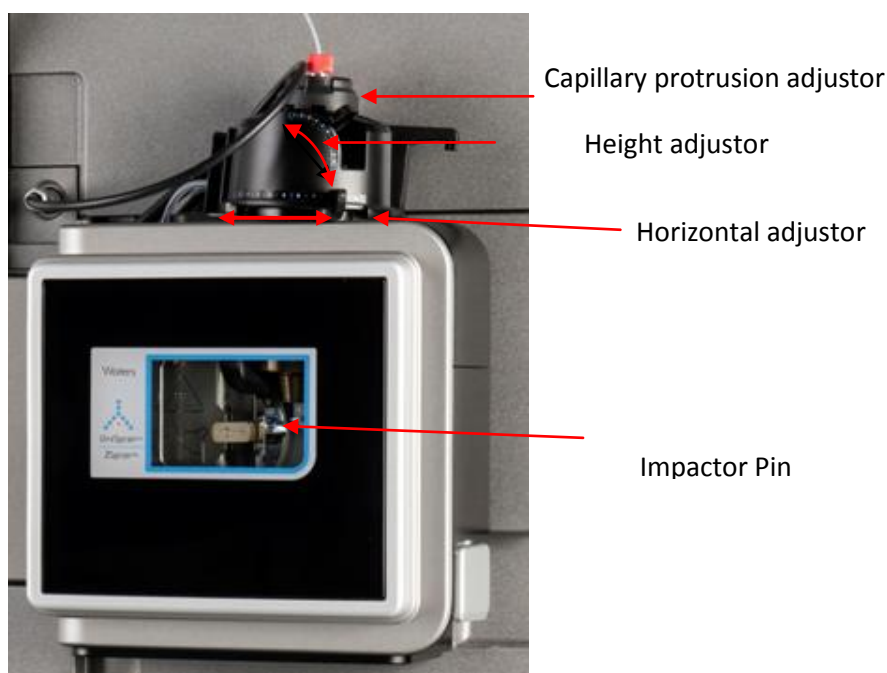

Figure 1. Shrike source enclosure
The UniSpray source is based on the Xevo universal source housing but has a new probe design and a built in removable Impactor pin built into the housing as shown in figure 1. The source can be used with Acquity UPLC and Acquity UPC2. It is also available in a LockSpray version.
2. The height of the probe and the movement from left to right is by the use of the levers shown in figure 1.